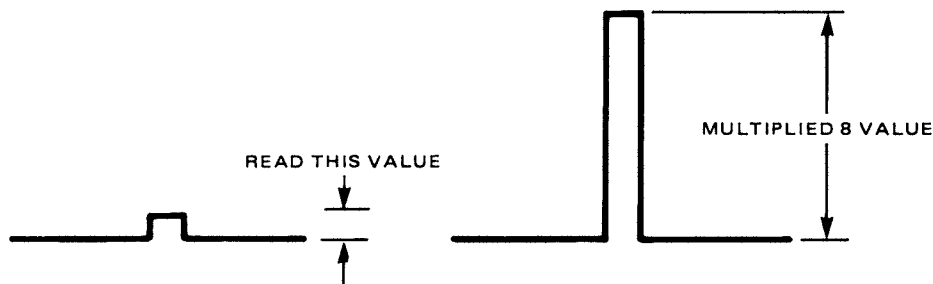

Figure 5-36. FBC Adjustment
- STEP 5 For red channel FBC adjustment, use potentiometer R271 (R FBC) and observe TP201. For blue channel adjustment use potentiometer R471 (B FBC) and observe TP401. Assure that clipping points are eight times greater than the value previously noted. For example, $8 \times 0.1 = 0.8$ Vp-p (see Figure 5-36).